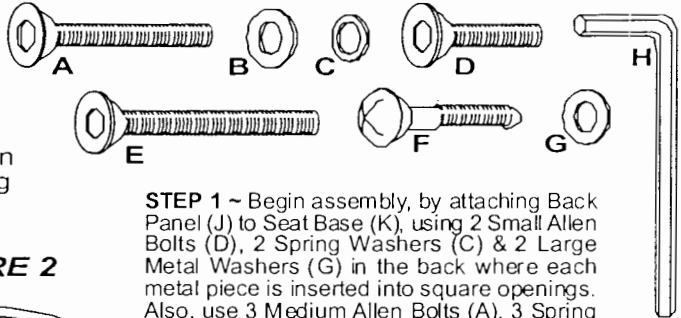

FIGURE 1
STEP 1 ~ Begin assembly, by attaching Back Panel (J) to Seat Base (K), using 2 Small Allen Bolts (D), 2 Spring Washers (C) & 2 Large Metal Washers (G) in the back where each metal piece is inserted into square openings. Also, use 3 Medium Allen Bolts (A), 3 Spring Washers (C) & 3 Large Metal Washers (G) from the inside of the seat base. Tighten all bolts. See Figure 1.
STEP 2 ~ Next, attach both Leg Panels (L) by crossing them between each other, and attach Top Ring (M) to inside of each panel using 1 Medium Allen Bolt (A), 1 Spring Washer (C) & 1 Large Metal Washer (G) per each leg. Only hand tighten bolts for this step. See Figure 1.